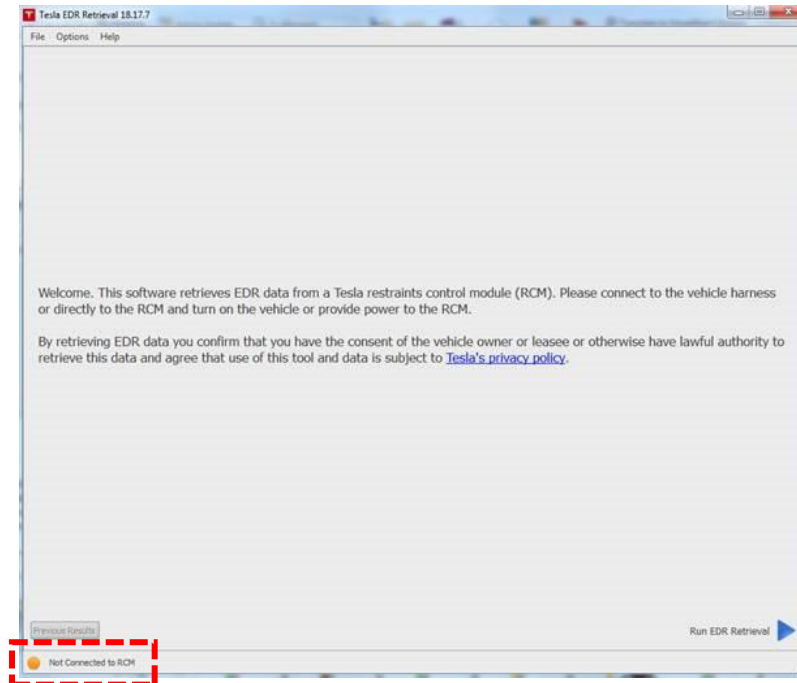

Figure 53. EDR program not successfully connected
- If the Tesla EDR Retrieval Program is communicating with the PCAN-USB adapter, but is not communicating with the RCM, a message displays “Not Connected to RCM” (Figure 53)